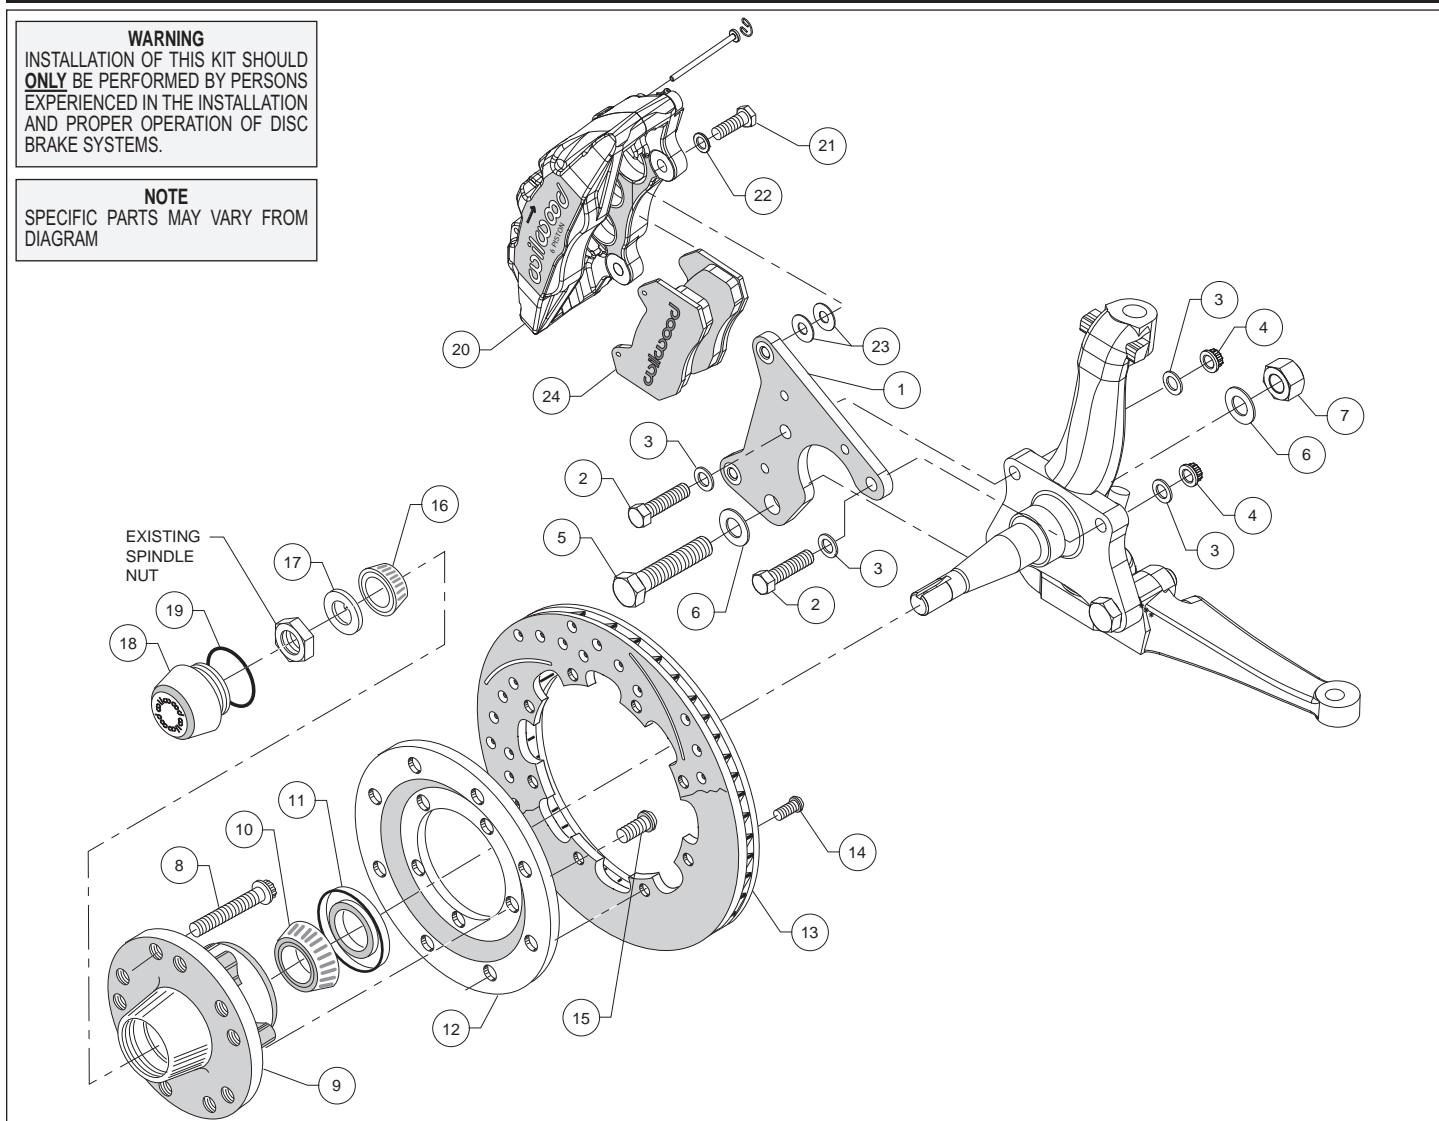
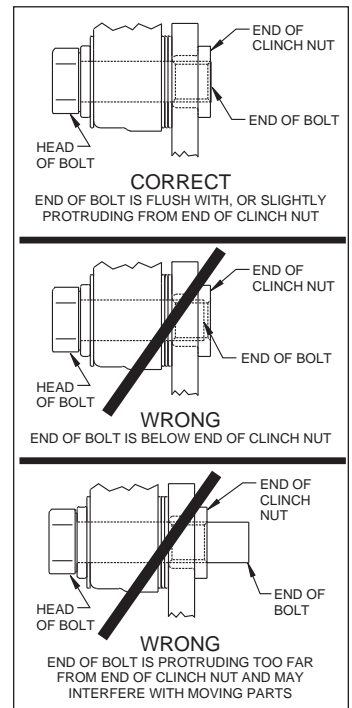

Figure 1. Typical Installation Configuration
Figure 3. Clinch Nut Engagement Diagram
**Assembly Instructions** (numbers in parenthesis refer to the parts list, on the preceding page and Figure 1): **CAUTION:** All mounting bolts must fully engage clinch nuts. Be sure to check that all bolts are either flush or protruding through flanged side of clinch nut after shimming, Figure 3.
- Orient the caliper mount bracket (1) as shown in Figure 1 and Photo 1, and install using bolts (2), washers (3), and nuts (4) on the top holes and bolt (5), washers (6), and nut (7) on the bottom hole, Figure 1 and Photo 1. Temporarily tighten the mounting bolts. Ensure that the flanged heads of the clinch nuts in the bracket are facing outboard, Photo 1. **NOTE:** The bracket must fit squarely against the mounting points on the spindle. Inspect for interference from casting irregularities, machining ridges, burrs, etc. Remove nuts one at a time, apply red *Loctite*® 271 to bolt threads and torque nuts (4) to 47 ft-lbs. and nut (7) to 140 ft-lbs.
- Pack the large inner bearing cone (10) with high temperature disc brake bearing grease (available from your local auto parts store) and install into the backside of the hub (9), Photo 3.
- Install the grease seal (11) by pressing into the backside of the hub (9), flush with the end of the hub, Photo 3.
- Orient the rotor (13) and the rotor adapter (12) as shown in Figure 1 and Photo 4. Attach the rotor to the adapter using bolts (14). Using an alternating sequence, apply red *Loctite*® 271 to the threads, and torque to 25 ft-lb.
- Mount the adapter/rotor assembly (12/13) to the hub (9) using bolts (15), as shown in Figure 1 and Photo 5. Using an alternating sequence, apply red *Loctite*® 271 to the threads, and torque to 45 ft-lb.
- NOTE:** Please reference the caution statement at the beginning of the assembly instructions. This kit contains distinct right and left hand calipers that must be mounted in a specific direction, as described below. Mount the caliper (20) onto the caliper mounting bracket (1) using bolts (21) and washers (22), as shown in Figure 1. Initially place two .035" thick shims (23) on each bolt between the caliper and the bracket, Photo 8. Ensure that the caliper is mounted so the largest pistons are at the rotor exit end of the caliper, in relation to the direction of rotor rotation. Temporarily tighten the mounting bolts and view the rotor (13) through the top opening of the caliper. The rotor should be centered in the caliper, Photo 9. If not, adjust by adding or subtracting shims between the bracket and the caliper. Always use the same amount of shims on each of the two mounting bolts. **NOTE:** The end of each bolt must be flush with or slightly protruding from the head of the clinch nut, as shown in Figure 3. If necessary place spare shims between washer (22) and caliper mounting ear to achieve the proper clinch nut engagement. Once the caliper alignment and clinch nut engagement are correct, remove the caliper.
- Remove the two pad retaining pins from the caliper (20) by carefully popping out the pin retaining clips and sliding out the pins. Insert the brake pads (24) into the caliper from the bottom, Figure 1 and Photo 10, with the friction material facing the rotor. Secure the brake pads in place with the pad retaining pins and clips, Photo 11. Reinstall the caliper onto the caliper mounting bracket. Apply red *Loctite*® 271 to bolt threads (21), and torque to 40 ft-lb.